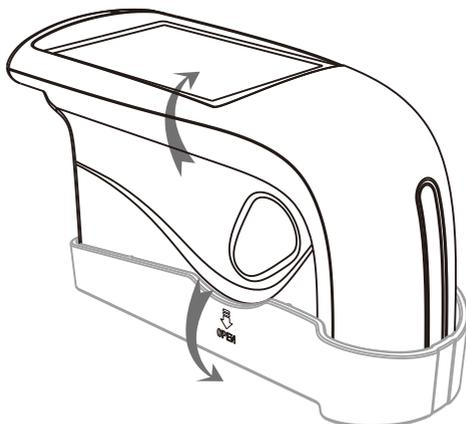

Figure 2 Separation Method
* **Attention:** The method to separate the protective cover from the instrument is shown in figure 2. Hold the instrument with one hand, the other hand hold the protective cover, and then separate it according to the “Open” mark. You only need to separate it from one side. Do not separate it from two sides.